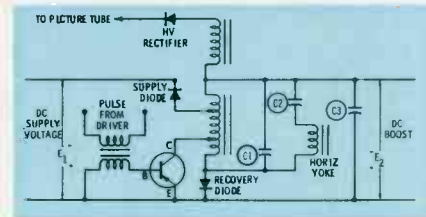

Fig. 17. Essential circuit elements in a transistor horizontal-output stage.
Horizontal-sweep systems are resonant circuits, whether in tube-type or transistor receivers. Fig. 17 depicts the essential circuit elements in a transistor horizontal-output
- b. Incorrect value of capacitor connected in series with the horizontal-deflection coils (C2 in Fig. 17).